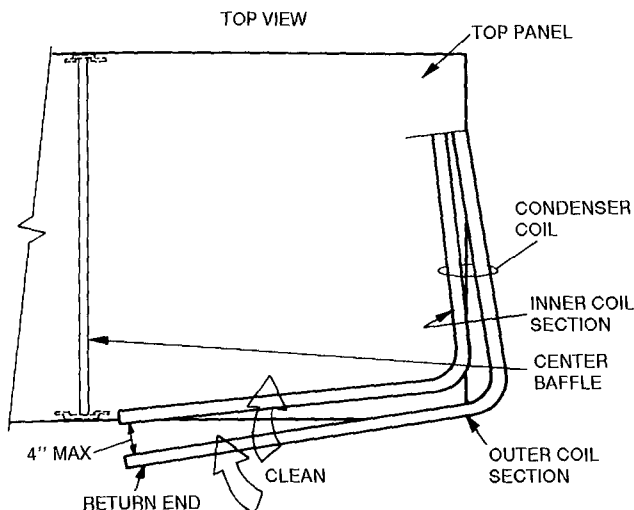

Fig. 16 - Separating Coil Sections
4. Remove device holding coil sections together at return end of condenser coil. Carefully separate the outer coil section 3 to 4 in. from the inner coil section. See Fig. 16.